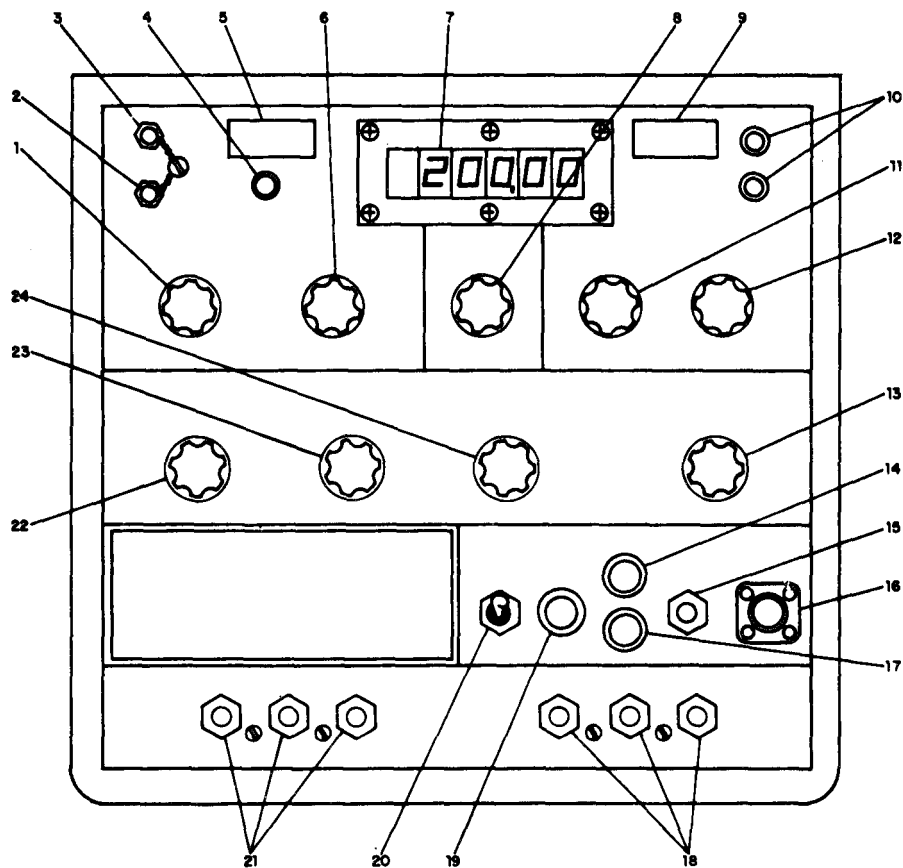

Figure 2-1. Test set front panel controls, indicators and connectors
Figure 2-1 shows the front panel of the Test Set and table 2-1 describes the function of each operating control, indicator, and connector.
Legend for fig. 2-1:
- a. Position Test Set ON/OFF switch (20, figure 2-1) to OFF.
- b. Connect one end of Test Set power cable (see table 1-2) W1 to Test Set input power connector J1 (16). Connect the other end of W 1 to either power adapter W2 or W3. Connect the free end of W2 or W3 to 115 VAC 400 Hz source. This connection requires no attention to polarization, since neither side of the power circuit is grounded in the Test Set.
The Test Set contains four basic types of circuitry. Each circuit performs a separate function and is described in the following paragraphs. (See fig. 2-1.)